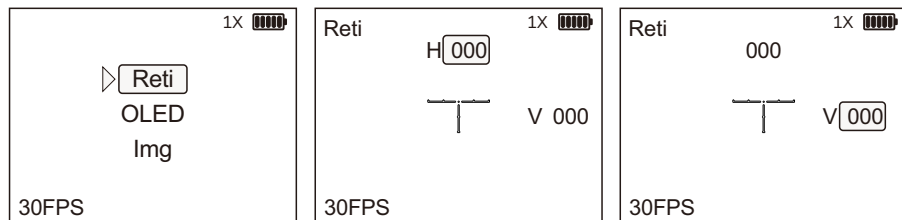

Fig 14
a. Digital Reticle Zeroing: When the magnification is 1X, click the button to enter the Reti settings interface. Press the and buttons to adjust the horizontal (H: -150~150) and vertical (V: -150~150) parameters and adjust the reticle position. This adjustment will move the digital reticle to match your point of aim with your point of impact or co-witness with your red dot sight reticle. (See Figure 14)